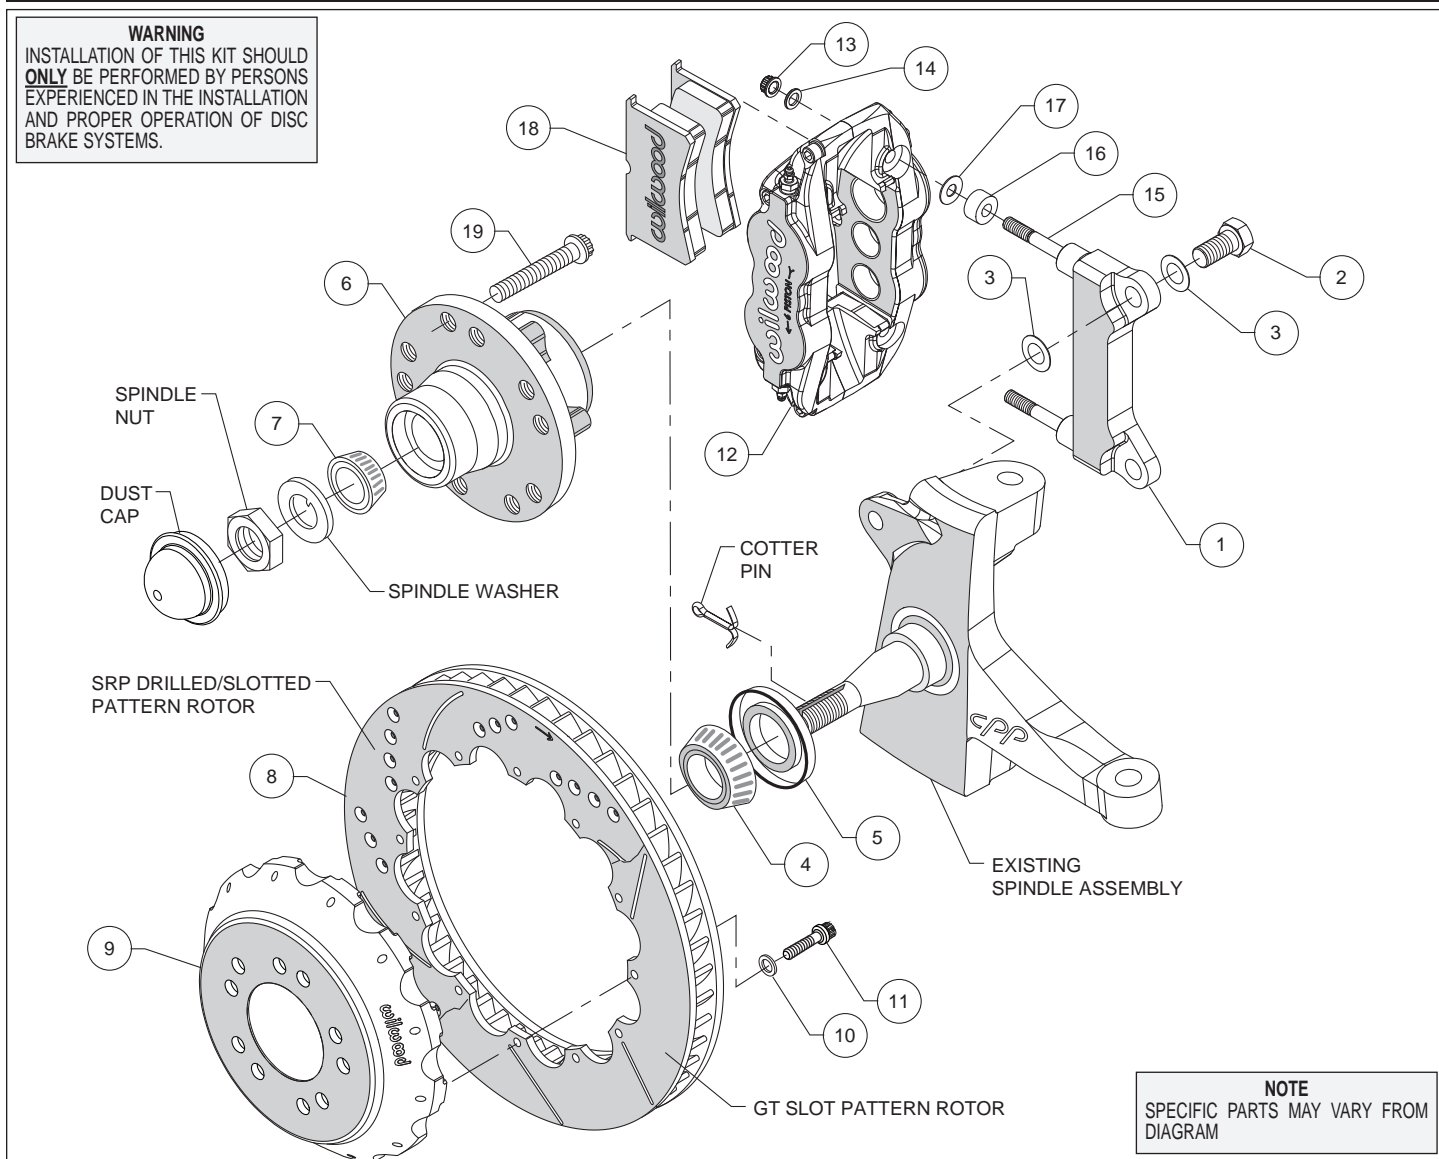
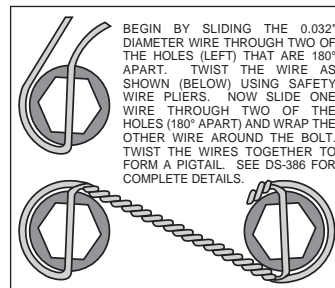

Figure 1. Typical Installation Configuration
Figure 3. Safety Wire Diagram
Assembly Instructions (numbers in parenthesis refer to the parts list and Figure 1 on the preceding pages):
- The caliper mount bracket (1) should initially be installed with clean, dry threads on the mounting bolts. Orient the bracket, as shown in Figure 1, and install using bolt (2) and washer (3). Initially place one .024" thick shim (3) on each bolt between the bracket and upright, Figure 1. Temporarily tighten the mounting bolts. **NOTE: The bracket must fit squarely against the mount bosses on the upright.** Inspect for interference from casting irregularities, machining ridges, burrs, etc. Later, after the caliper alignment has been checked, the mount bolts will be secured using red *Loctite*® 271.
- Install wheel studs (19) into the hub (6), Photo 1. Torque to 77 ft-lb. **NOTE: There are two five lug patterns in the hub (5 x 4.75 and 5 x 5.00).** Ensure the correct hub stud pattern is being used to fit the wheel application.
- Orient the rotor (8) and the hat (9) as shown in Figure 1 and Photo 4. Attach rotor to hat using bolts (11) and washers (10). Using an alternating sequence, apply red *Loctite*® 271 to the threads, and torque to 155 in-lbs. For an added measure of security, the bolts may be safety wired using standard 0.032 inch diameter stainless steel safety wire as shown in Figure 3. Refer to Wilwood's data sheet DS-386 (available at www.wilwood.com/Pdf/DataSheets/ds386.pdf) for complete safety wire installation instructions.
- Pack the small outer bearing cone (7) with high temperature disc brake bearing grease and install into hub (6). Slide the hub assembly onto the spindle. Secure using spindle washer and spindle nut, Photo 5. Adjust bearings per OEM specifications. Install a new cotter pin.
- Press the dust cap into the hub (6).
- Slide the hat/rotor assembly (8/9) onto the hub (6). **NOTE: The hat must fit flush against the hub face or excessive rotor run out may result.**
- NOTE: This kit contains distinct right and left hand calipers that must be mounted in a specific direction, as described below.** Lubricate the caliper mounting studs (15) with lightweight oil. Initially place one .035" thick shim (17) and one spacer (16) on each stud as shown in Figure 1 and Photo 6. Mount the caliper
(12) onto the bracket (1) using lock nuts (13) and washers (14), Figure 1. Ensure that the caliper is mounted so that the largest pistons are at the rotor exit end of the caliper, in relation to the direction of rotor rotation. Temporarily tighten the lock nuts and view the rotor through the top opening of the caliper. The rotor should be centered in the caliper, Photo 7. If not, adjust by adding or subtracting shims (3) between the bracket and the upright. Always use the same amount of shims on each of the two mounting bolts. Once the caliper alignment is correct, remove the bracket mounting bolts one at a time, apply red *Loctite*® 271 to the threads, and torque to 120 ft-lb.